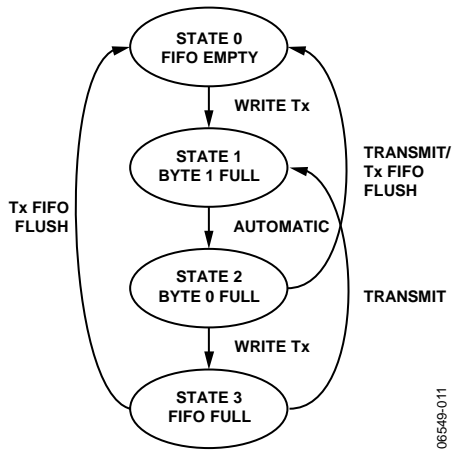

Figure 13. Transmit FIFO State Machine
- If Byte 0 is empty, the byte in Byte 1 gets pushed to Byte 0 automatically. This is described in the state machine (see Figure 13). Note that the states are visible to the user in the I2CFSTA register.